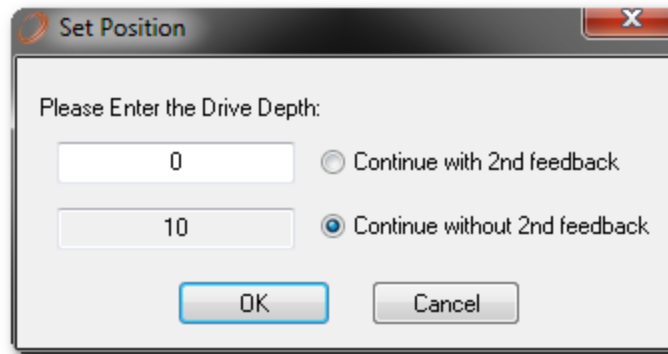

Figure 74: Set Position – Continuing without 2nd Feedback
4. Select **Continue without 2nd Feedback** (Figure 74), and then, in the upper field, enter the value you read on the drive.